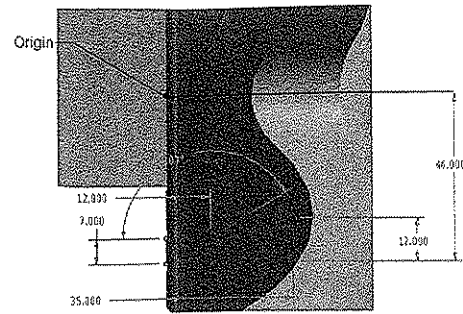

Figure 5-23 Sketch for the revolved nut hole feature
- 3. Draw the sketch with the dimensions shown in Figure 5-23.